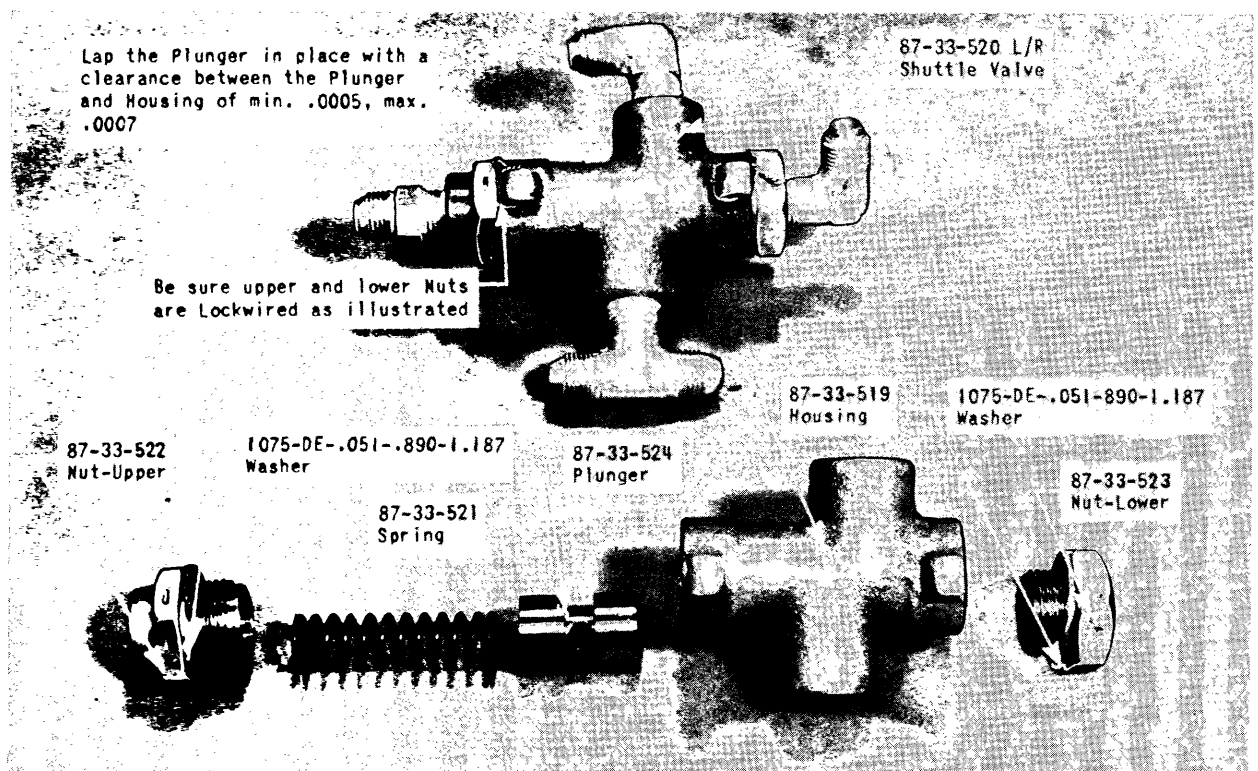

Figure 192 - Shuttle Valve Assembled and Disassembled
(1) Place the valve assembly in a vise with aluminum covered jaws so that the upper end nut is free. Cut the lock wire on the end nut and remove the nut with a suitable wrench.
(2) The spring and plunger may now be dropped from the valve housing.
(3) Reverse the valve in the vise and cut the lock wire on the lower nut. Remove the nut with a suitable wrench. (See figure 192.)
(1) Wash all parts in alcohol and be sure that all grit, dirt, or foreign matter is expelled from the housing and parts by applying compressed air pressure.
(2) On the original installation the plunger was lapped into place in the housing with a clearance between the housing and plunger of minimum .005 and maximum .007. If a new plunger is installed lap the plunger in as on the original installation.
(3) Install the lower nut gasket and lockwire the nut.
(4) Install the spring and screw in the upper nut. Be sure that the gasket is installed on the nut. Lockwire the nut to the lug on the housing. (See figure 192.)